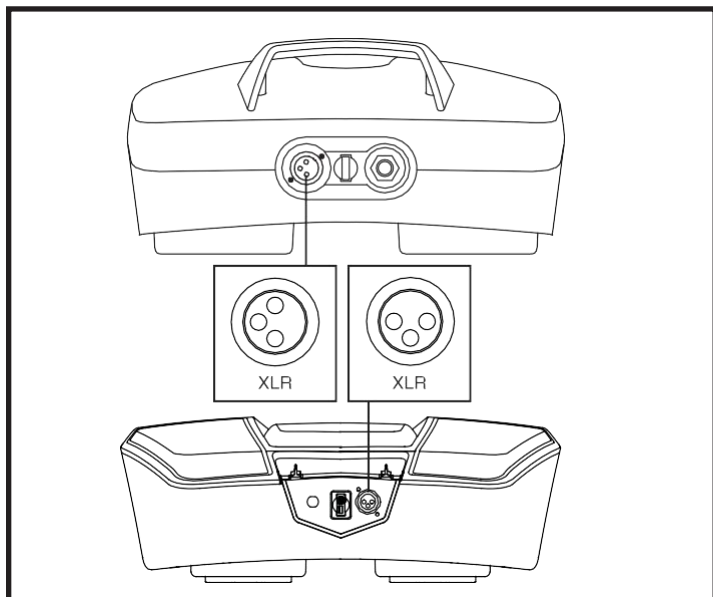

Figure 12. Charger Power Cord Receptacle (Battery Pack)
3. Plug the off-board charger into the off-board charger socket of the scooter's battery pack. **See figure 12.**